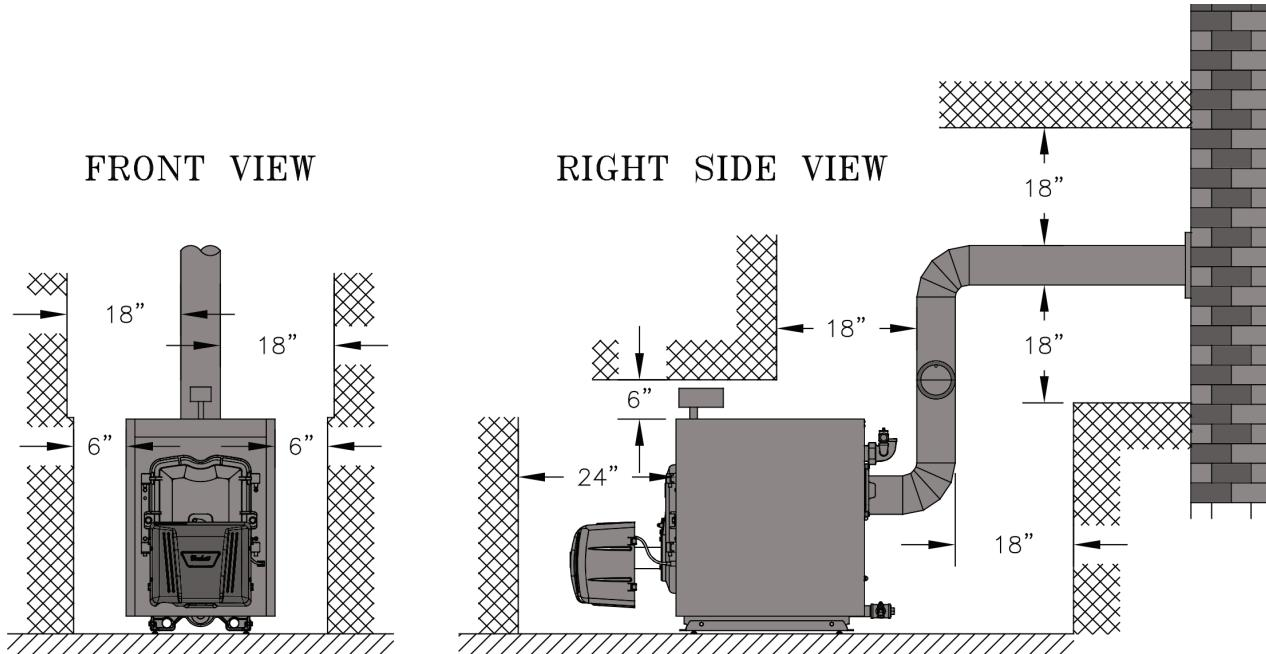

Figure 2A: Chimney Vent - Minimum Installation Clearances To Combustible Materials (Inches)
(Note: This dimension will also be controlled by horizontal to vertical to horizontal smokepipe arrangement - **Chimney Vent** (see Figures 2A and 10).)
5. For minimum clearances to combustible materials. See Figures 2A and 2B.